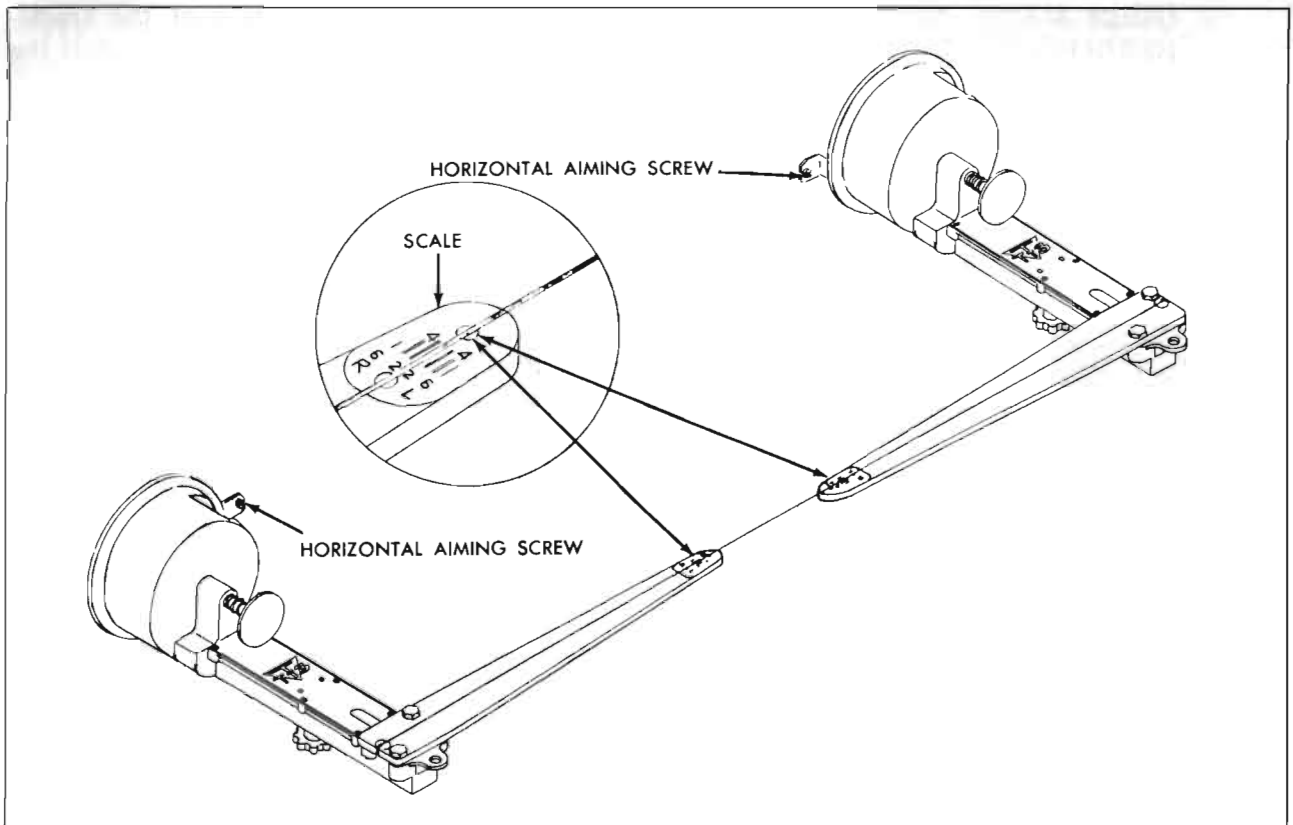

Figure 10-54—Adjusting Horizontal Aim
1. Turn horizontal aiming screw on left-hand unit until the string is positioned directly over the center line of the scale on the left-hand aimer. Turn screw clockwise in making final adjustment to take up play in the headlamp mechanism. See Figure 10-54.